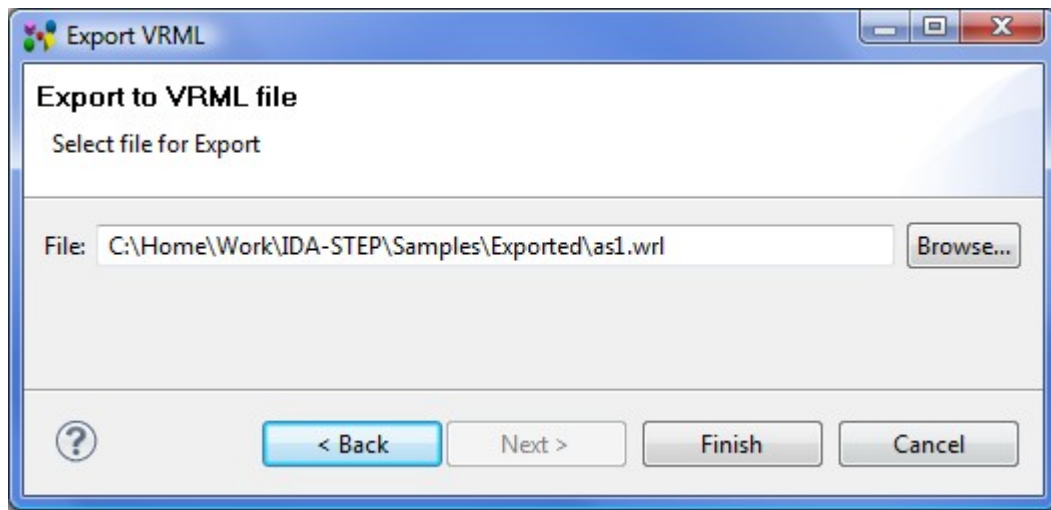

Figure 2. Export VRML wizard to locate wrl file
- The **Export VRML** wizard page appears to locate the file to be created (see Figure 2):